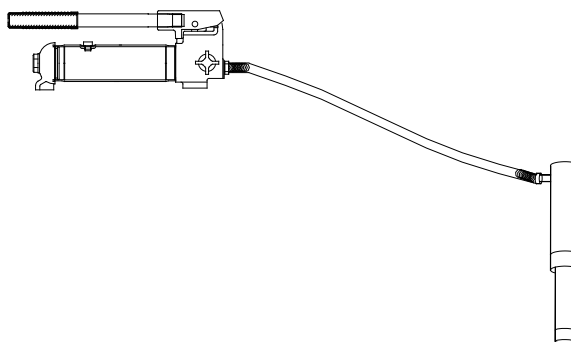

Figure 3 - Pump and ram illustration to bleed air
1. Bleed air from ram: Place pump at a higher elevation than the hose and ram as shown in figure 3 below. The objective is to "float the air bubbles up hill and back to the reservoir where they belong. Close valve and extend ram as fas as possible. Open valve fully allowing oil and air to return to reservoir. Repeat this procedure two or three times will do the trick.